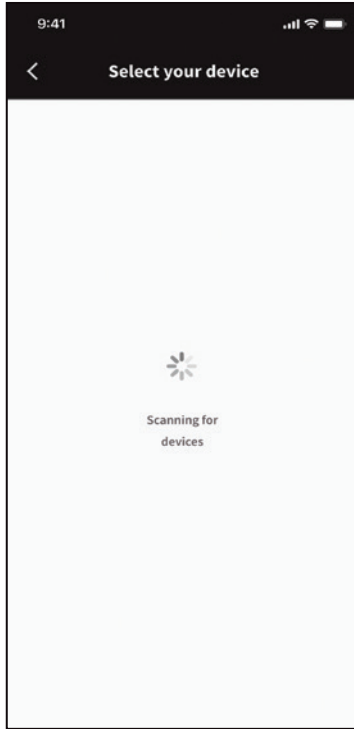

Fig. 29
- d. Search for devices and select the device from the list (**Fig. 29 & 30**).